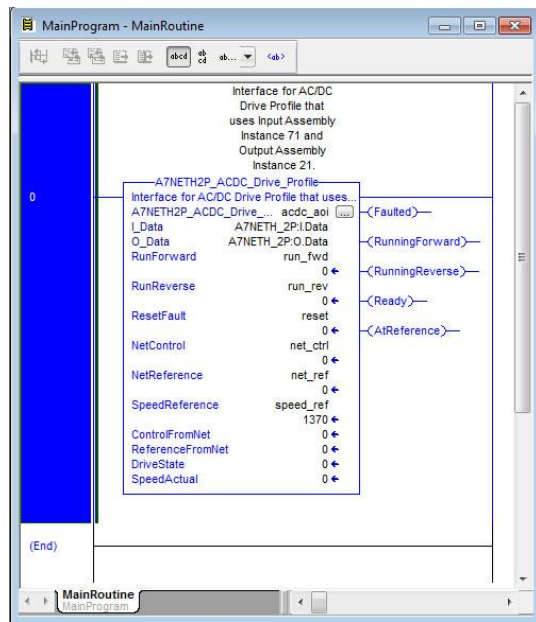

Figure 38: Configure AC/DC Drive Profile AOI
- 10) Edit the add-on instruction according to Figure 38.